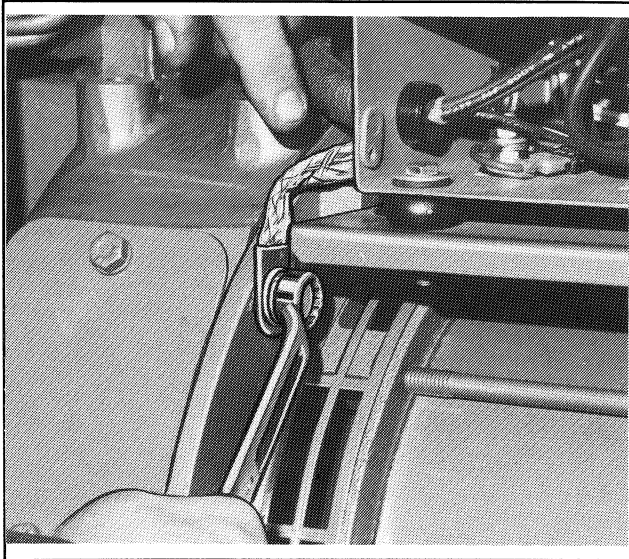

Figure 8-3. Removing Ground Strap
8. Disconnect ground strap from end bracket (Yanmar) or engine adapter connection (Perkins). Figure 8-3.